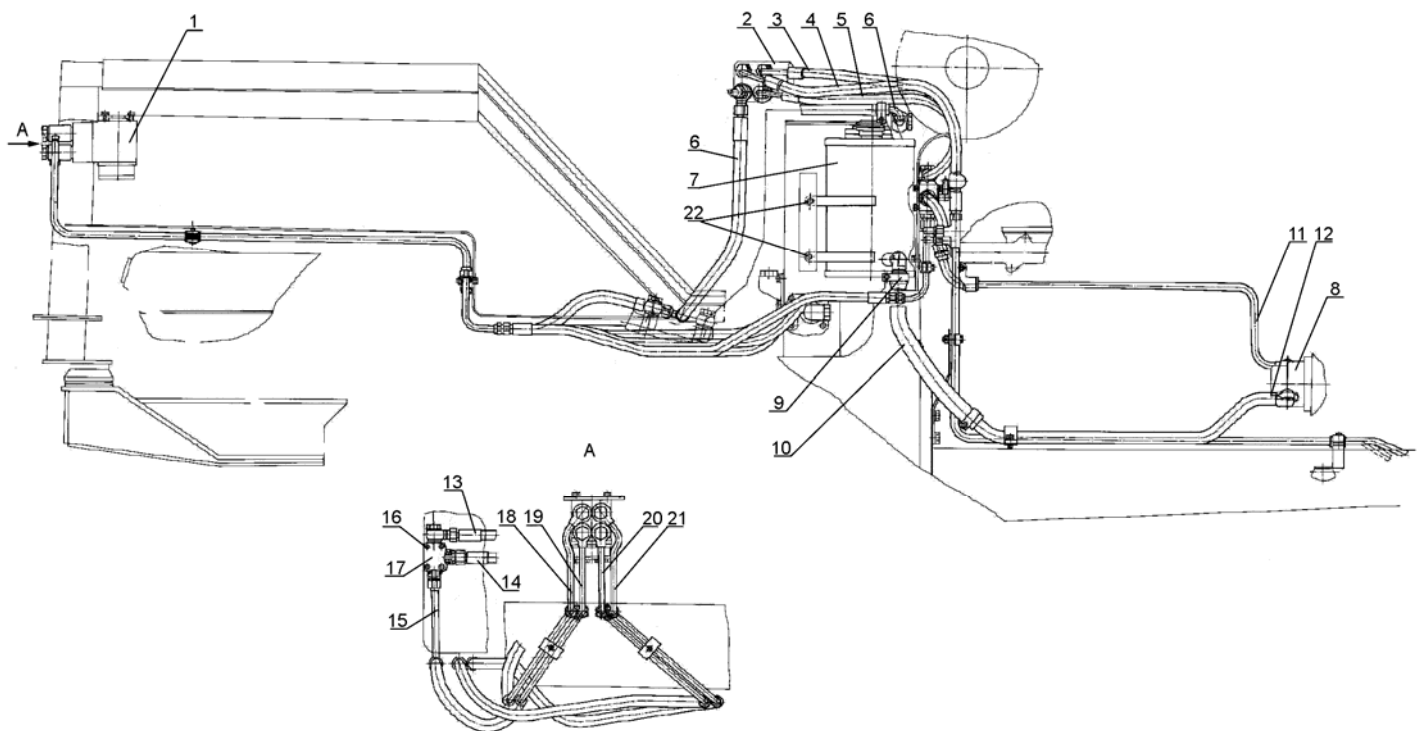

Figure 7.6
- a) disconnect high-pressure sleeves 3, 4, 5, 6 (Figure 7.6);
- a) dismount valve of reverse 17 (Figure 7.6) from tractor, and to do this: